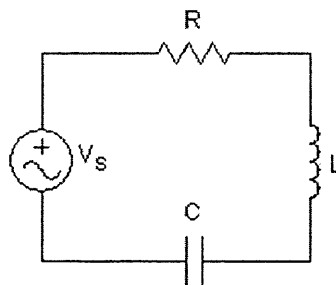

Figure 2
- b) Figure 2 illustrates a series circuit of resonance with $V_s = 150 \text{ V}$, $R = 20 \ \Omega$, $L = 0.26 \text{ H}$ and $C = 200 \ \mu\text{f}$.